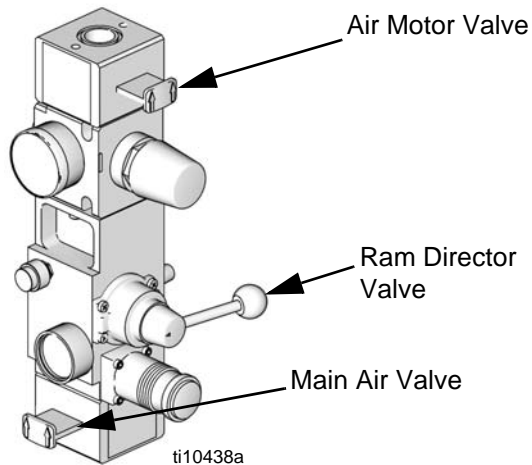

FIG. 6: Air Control Module
2. **For D200s, D200, D60 and S20 Air Controls:** See FIG. 6.